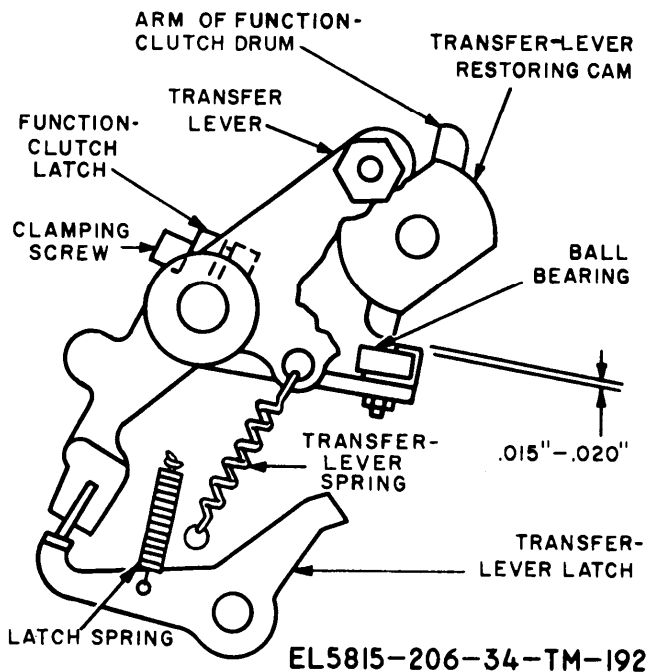

Figure 3-120. Function-clutch latch adjustment.
**3-153. Function-Clutch Latch Adjustment (fig. 3-120)**